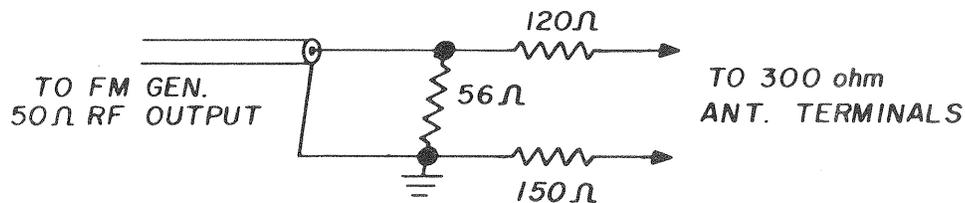

Figure 2
1. Set the SELECTOR switch to "FM and the FM muting switch off. Connect a FM Generator to the 300 ohm FM antenna terminals using a matching network if necessary as shown. (Figure 2)